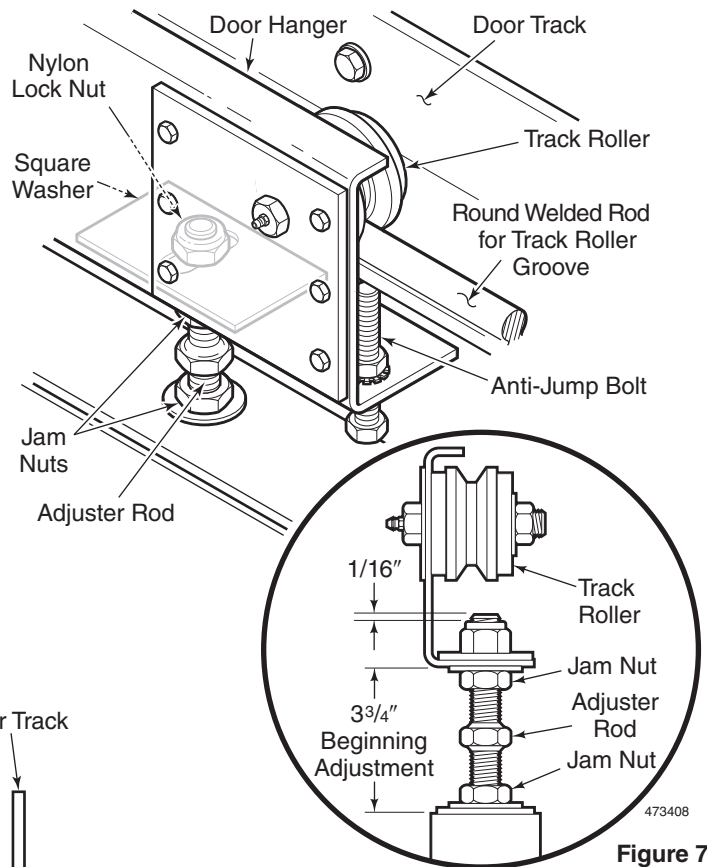
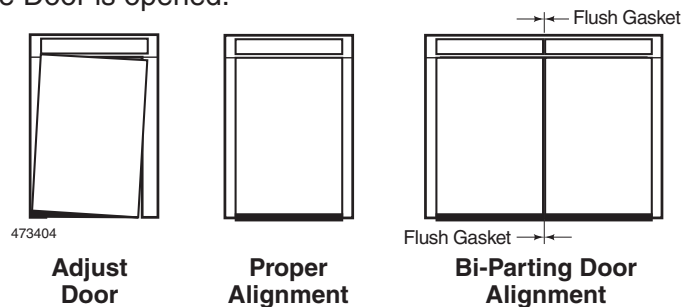

Figure 7
Figure 9
1. Install the Door Hanger on top of the door. Fasten it to the door with the Square Washers, flat washers, Jam Nuts, nylon Lock Nuts, and 3/4" Adjuster Rods. Make sure the Adjuster Rod comes through the nylon Lock Nut on the Square Washer no more than 1/16". Adjust the Door Hanger *temporarily* to 3-3/4" from the top of the door to the bottom of the Channel. Final adjustment is made after the Door is hanging on the Door Track. See Figure 7.
1. For a single slide door, set the door in the closed position and adjust the door height so the Sweep Gasket lightly touches the floor and the door lines up with the side frames. See Figure 9. To adjust the height, loosen the top and bottom Jam Nuts on both Adjuster Rods and raise or lower the door with the welded nut on the Adjuster Rod. Tighten the Jam Nuts to lock the door in position. See Figure 7.
2. For a bi-parting door, set the doors in the closed position and adjust the door height so the Sweep Gasket lightly touches the floor. Use the Adjuster Rod to align the two door leaf sections for a proper seal where the doors come together. The door leaves should be parallel and have a uniform seal from top to bottom. See Figure 9. To adjust the height, loosen the top and bottom Jam Nuts on both Adjuster Rods and raise or lower the door leaf with the Adjuster Rod. Tighten the Jam Nuts to lock the door in position. See Figure 7.